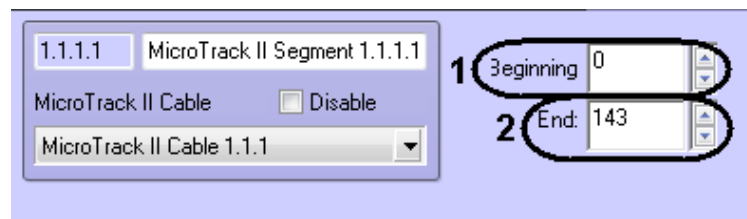

Fig. 3.6—4 Configure the MicroTrack II control segment
2. In the **Beginning:** field using **up-down** buttons enter the number of subcell corresponding to the key point in which the control segment started (Fig. 3.6—4, **1**).
3. In the **End:** field using up-down buttons enter the number of subcell corresponding to the key point in which the control segment finished (Fig. 3.6—4, **2**).